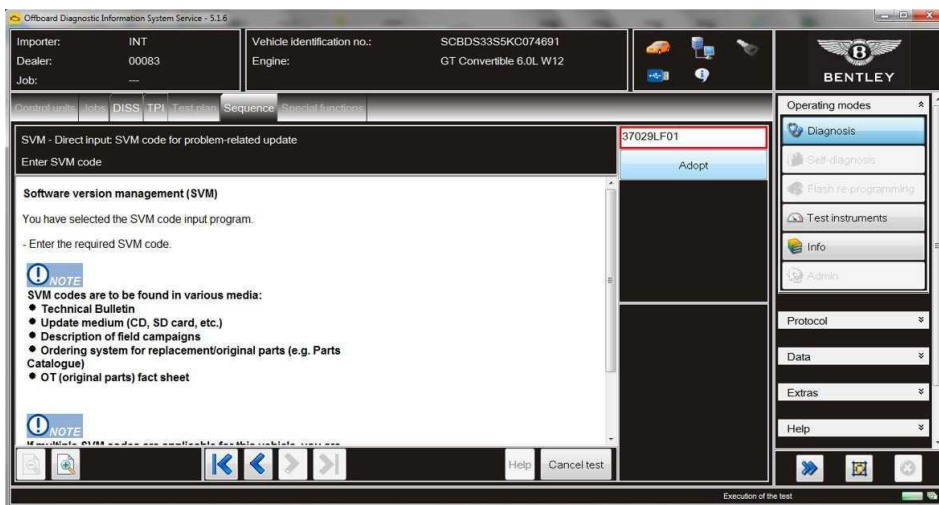

Figure 2
2. On the next screen enter the SVM code 37029LF01 and select Adopt (Figure 2).